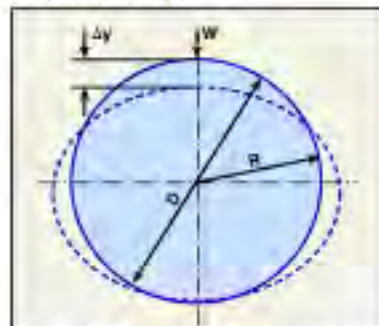

FIGURE 3. Ovality of pipe cross section
earth and live loads (Figure 3). This is quantified in terms of the strain as follows in Equation (3):